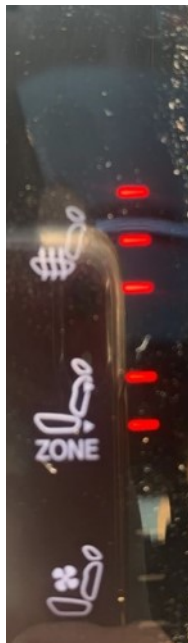

Fig. 1
6. Turn on the cushion and back seat heat by pushing the heat seat logo until three red indicator bars (high setting) are shown (Fig. 1) .
7. Ensure both cushion and back heat seat are both on by pushing the seat zone button until two red indicator bars are shown (Fig. 1) .
9. Did all the red indicator bars on the heated seat buttons (Fig. 1) stay activated after 10 or 20 minutes?